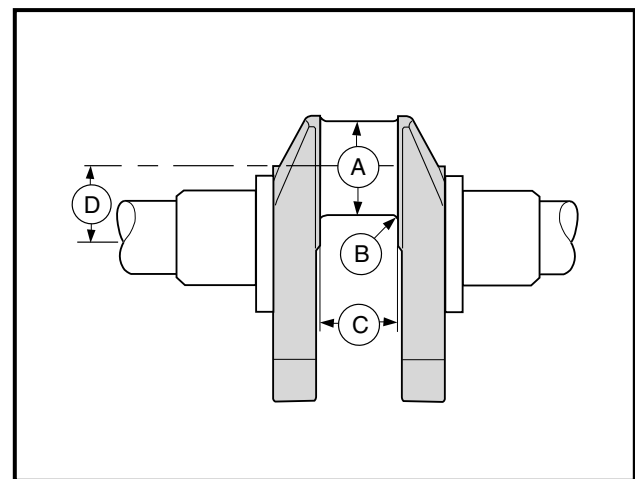

Figure 13-88 Undersized Connecting Rod Journal
1. Have a reliable repair shop grind the crankshaft journal (A) (**Figure 13-88, Page 13-40**).
2. The final finishing dimensions are as follows (**Figure 13-88, Page 13-40**).
- 2.4. (D) 1.2775 - 1.2814 inches (32.45 - 32.55 mm)
3. The connecting rod journal (A) must be concentric and cylindrical within 0.0002 inch (0.005 mm) at full indicator reading (**Figure 13-88, Page 13-40**).